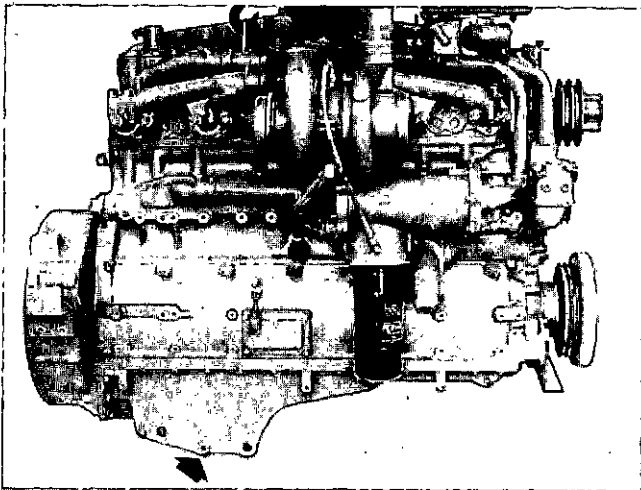

Fig. 0-2. Oil Drain Plug
1. Drain the oil from all the components on the engine, Fig. 0-2.